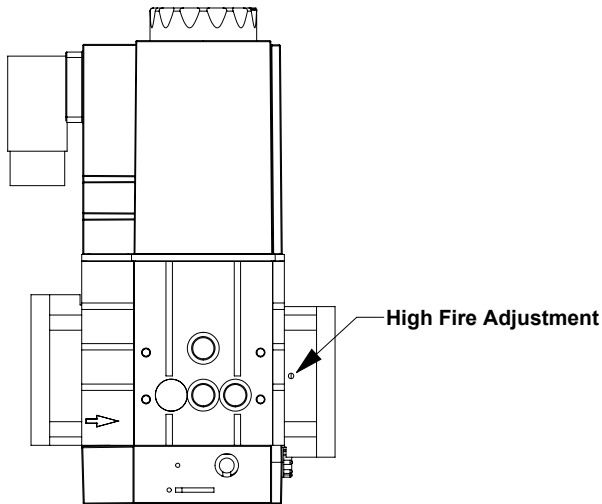

Figure 33: Gas Valve Air-to-Fuel Adjustment
- d. If high fire O₂ is too high (CO₂ is too low), decrease O₂ (increase CO₂) by turning the adjustment screw towards the "Plus (+)" sign in 1/4 turn increments and checking the O₂ (or CO₂) after each adjustment. Refer to Figure 33 for location of throttle screw. Verify CO air free is less than 200 ppm.